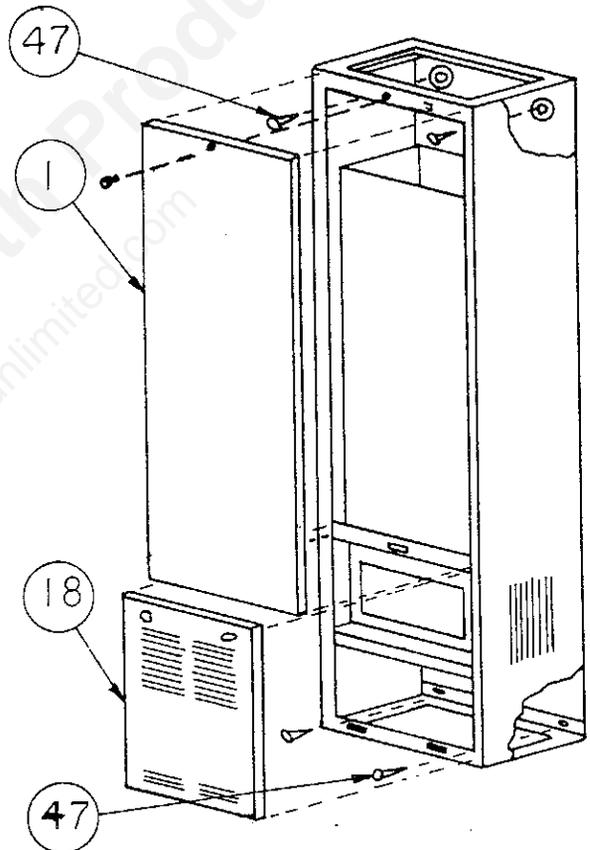

FIG. 2
7. Remove front panel (1) and access door (18), (Fig. 2).
9. Secure furnace to wall with four wood screws (47), (Fig. 2).